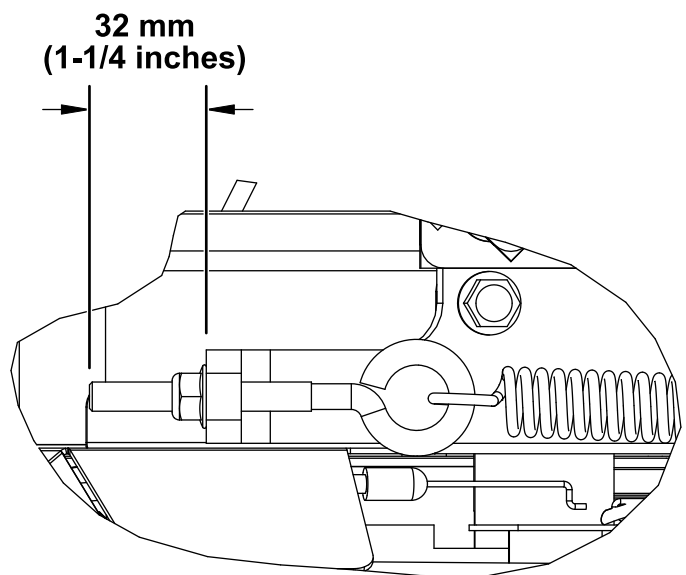

Figure 93
2. While holding the eye bolt from rotating, tighten the locknut until the thread length after the adjustment is 32 mm (1-1/4 inches) as shown in Figure 93.